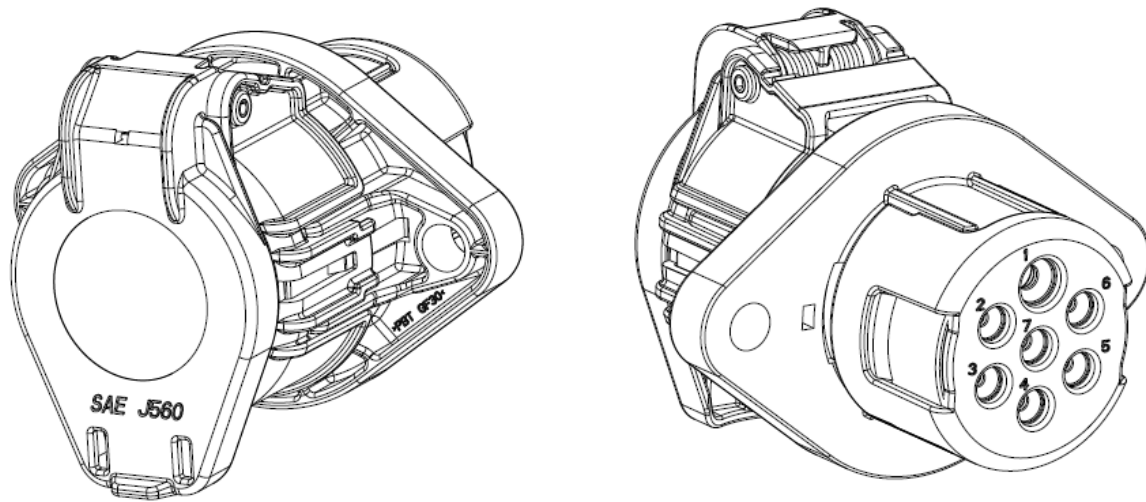

Figure 1
This instruction sheet provides assembly (terminal insertion, mounting, and connector mating) and disassembly (connector un-mating, dismounting, and terminal extraction) procedures for SAE J560 Breakaway Receptacle connectors, shown in Figure 1. These connectors accept TE SAE J560 terminals, mate with all aftermarket plug connectors that conform to the SAE J560 standard, and mount to the SAE J560 standard panel cutout.
2. DESCRIPTION (See Figure 1)